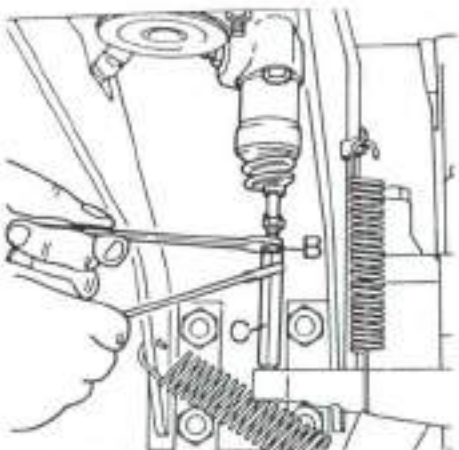

Fig. 159—View showing adjusting sleeve (C) and locknut (B) on 1490 and 1690 models.
213. Transmission clutch linkage should be checked and adjusted after every 60 hours of operation. Move cross-shaft lever away from slave cylinder push rod (Fig. 158) until release bearing is against release lever plate and note amount of lever movement. Clearance (free movement) between cross-shaft lever and end of push rod adjusting sleeve should be 4 mm ($\frac{1}{8}$ inch). If necessary, loosen locknut (B—Fig. 159) and turn adjusting sleeve (C) until correct clearance is obtained.